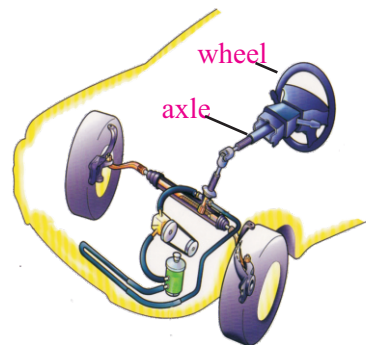

Fig.9.3: Steering wheel
- The steering wheel of motor vehicles is also an example of wheel and axle (Fig.9.3). A small force on steering wheel provides a big force to the axle that easily turns the wheels of the vehicle.